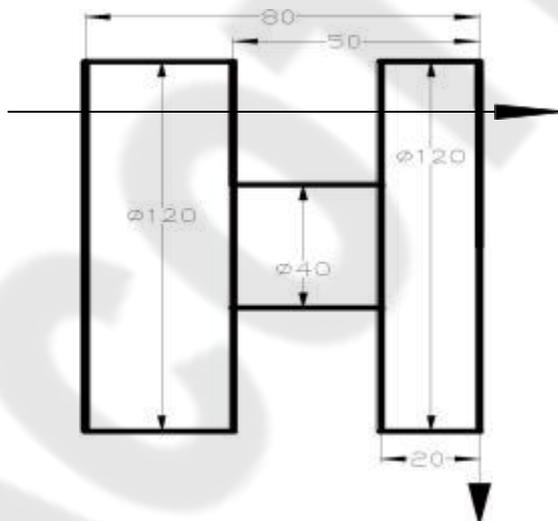

Figure 3-37 G75 code cutting diagram
- The cycle action is performed by the G75 program segment containing X(U) and P( $\Delta i$ ). If only the "G75 R(e);" program segment is executed, the cycle action will not be performed;
- $\Delta d$  and e are both specified by the same address R, and the difference is based on whether there are X(U) and P( $\Delta i$ ) code words in the program segment;
- When performing a grooving cycle, the R( $\Delta d$ ) code word must be omitted because there is no retraction distance when cutting to the radial cutting end point. Example: Figure 3-37